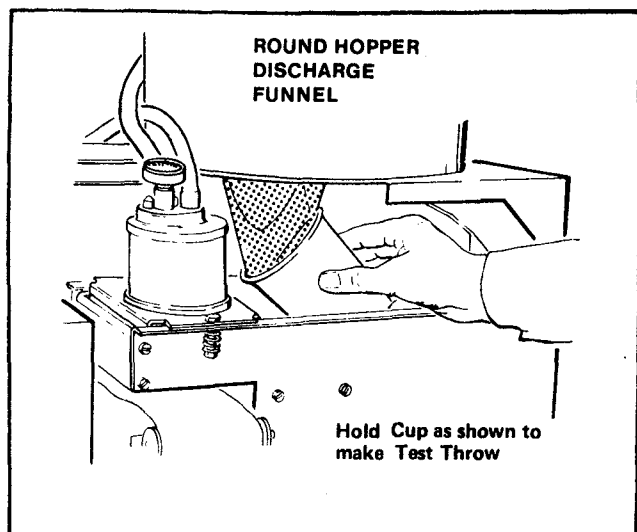

Figure 2-11. Brewer Ingredient Test Throw
E. Hold a clean empty cup or canister lid under the Hopper Discharge Funnel. Press the \* switch. See Figure 2-11.